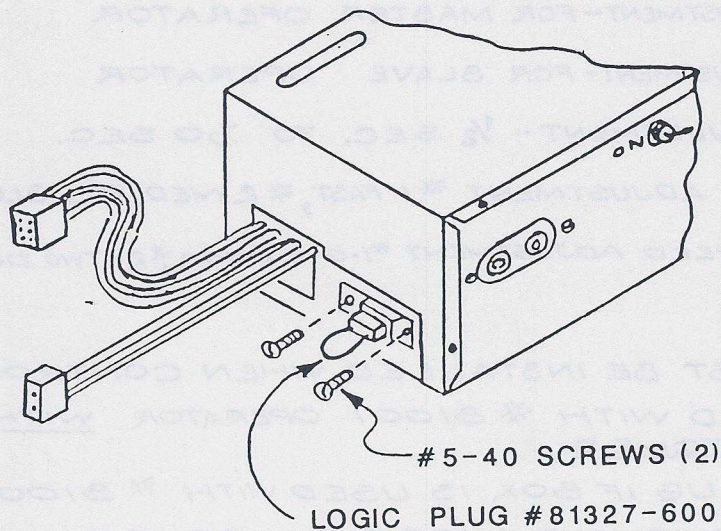

Fig. 2
- ⑪ CONTROL BOX MOUNTING CLIPS 4 REQ'D.
- ⑫-⑰ SEE NOTATION ON ILLUSTRATION ABOVE
3. Before installing the control box in the header make certain the #81327-600 Logic Plug is installed and secured with the (2) #5-40 screws provided. (See Fig. 2)